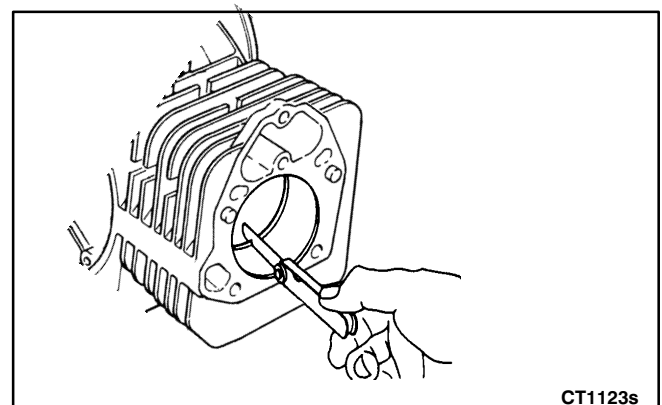

FIGURE 10-27. MEASURING RING GAP
2. Measure the ring gap with a feeler gauge as shown in Figure 10-27.